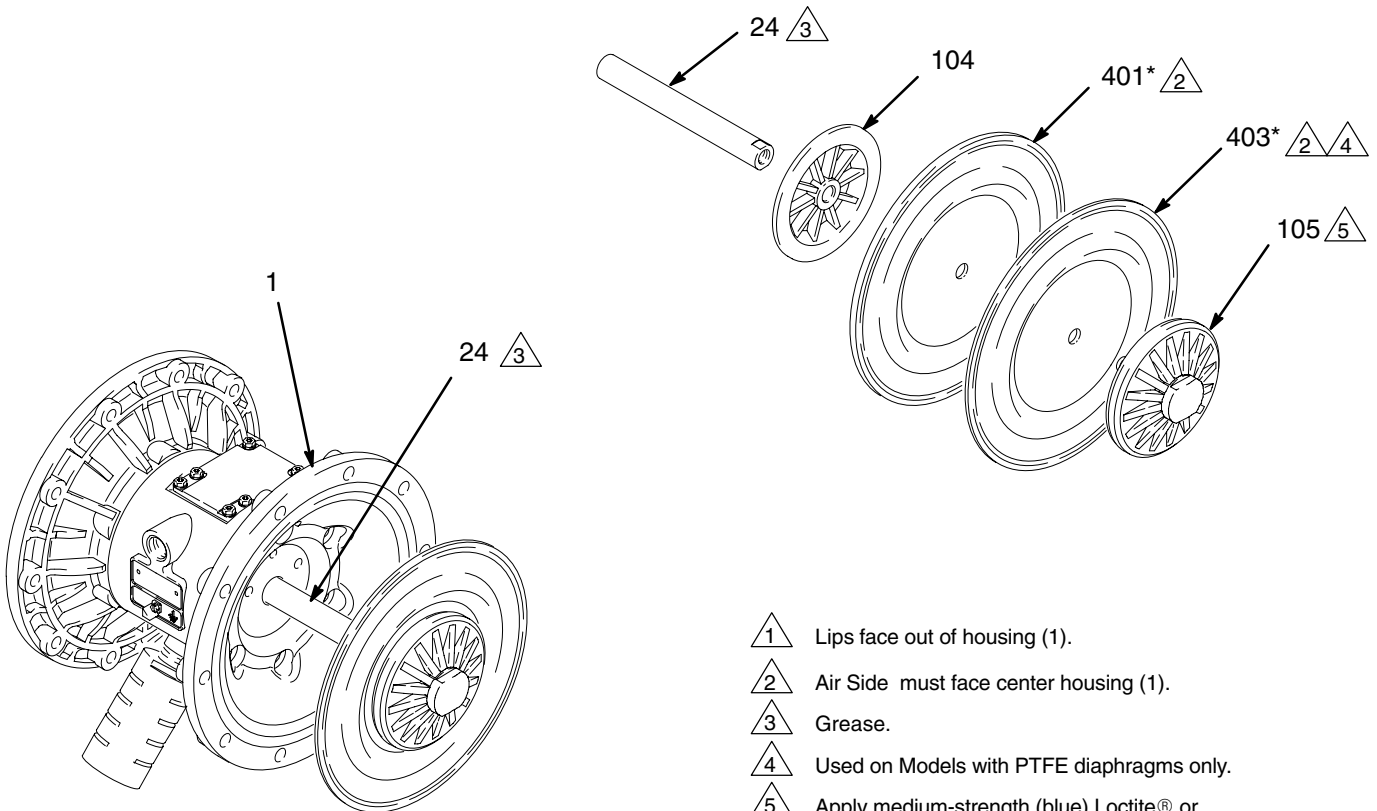
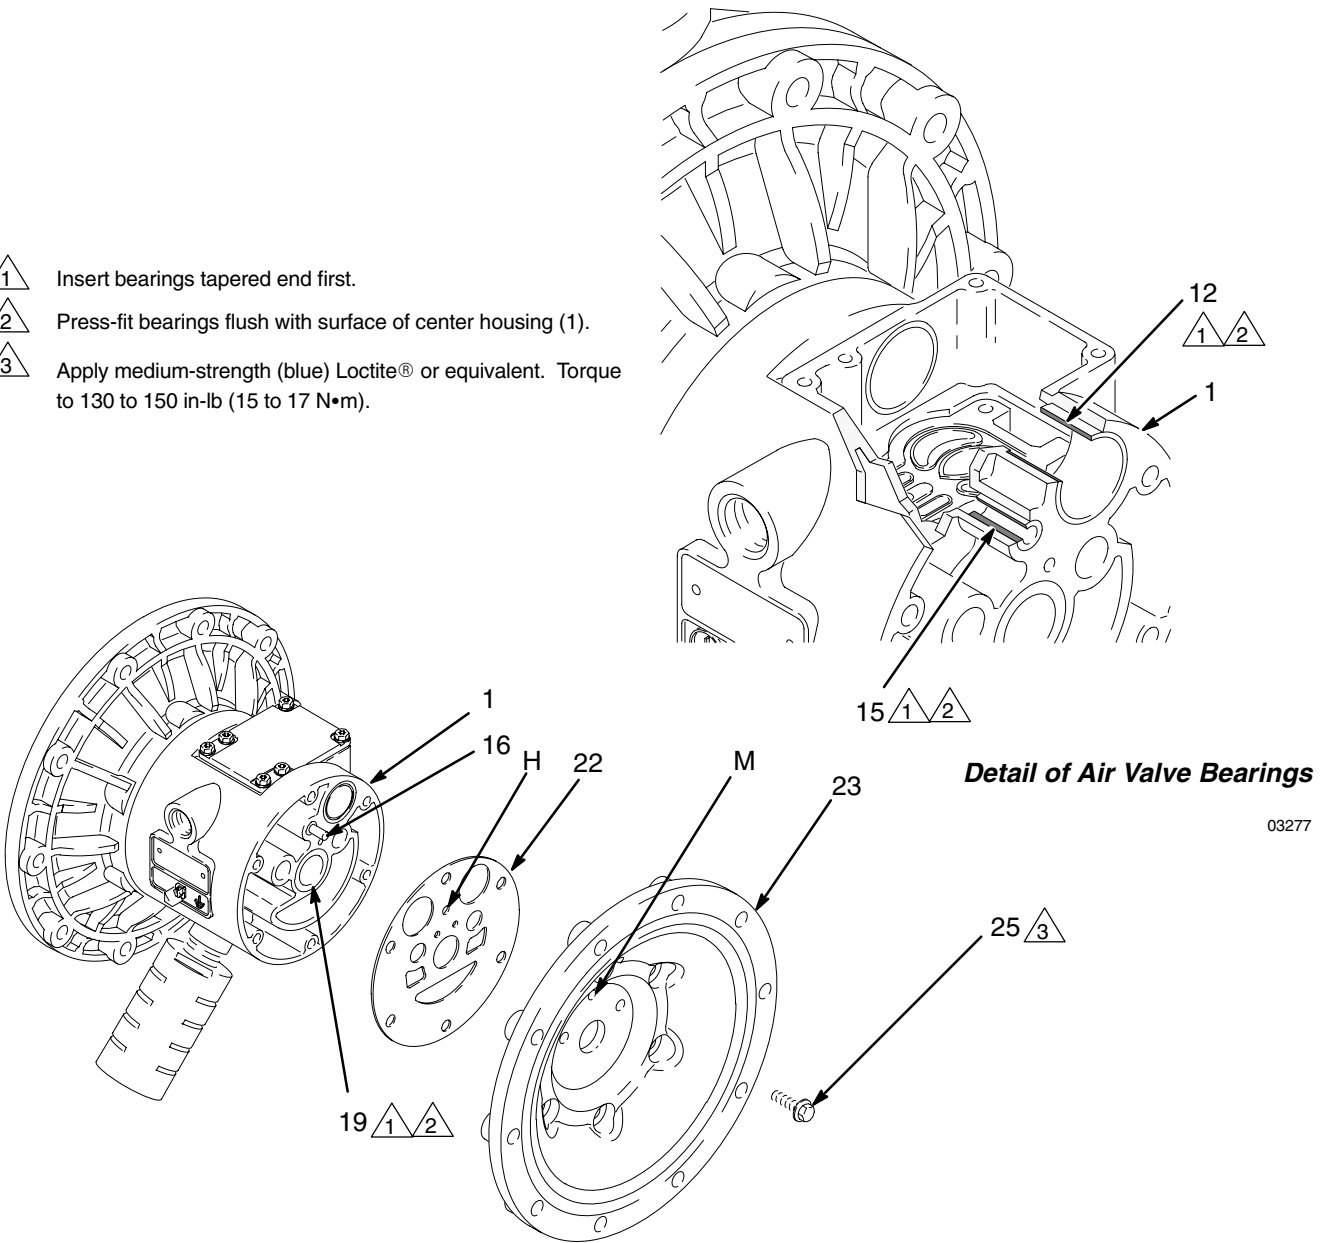

Fig. 13
Fig. 14
4. Unscrew one outer plate (105) from the diaphragm shaft (24). Remove one diaphragm (401), and the inner plate (104). See Fig. 13.
1. Grease the shaft u-cup packings (402*) and install them so the lips face **out** of the housing (1). See Fig. 13.
2. Grease the length and ends of the diaphragm shaft (24) and slide it through the housing (1).
3. Assemble the inner diaphragm plates (104), diaphragms (401*), PTFE diaphragms (403*, if present), and outer diaphragm plates (105) *exactly* as shown in Fig. 13. These parts **must** be assembled correctly.
- NOTE:** If you are removing only the diaphragm shaft bearing (19), skip step 4.
5. Using a 10 mm socket wrench, remove the screws (25) holding the air covers (23) to the center housing (1). See Fig. 14.
6. Remove the air cover gaskets (22). Always replace the gaskets with new ones.
7. Use a bearing puller to remove the diaphragm shaft bearings (19), air valve bearings (12) or pilot pin bearings (15). Do not remove undamaged bearings.
8. If you removed the diaphragm shaft bearings (19), reach into the center housing (1) with an o-ring pick and hook the u-cup packings (402), then pull them out of the housing. Inspect the packings. See Fig. 13.
1. If removed, install the shaft u-cup packings (402*) so the lips face **out** of the housing (1).
2. The bearings (19, 12, and 15) are tapered and can only be installed one way. Insert the bearings into the center housing (1), **tapered end first**. Using a press or a block and rubber mallet, press-fit the bearing so it is flush with the surface of the center housing.
4. Align the new air cover gasket (22) so the pilot pin (16) protruding from the center housing (1) fits through the proper hole (H) in the gasket.
5. Apply medium-strength (blue) Loctite® or equivalent to the threads of screws (25). Align the air cover (23) so the pilot pin (16) fits in the middle hole (M) of the three small holes near the center of the cover. Install the screws (25), handtight. See Fig. 14. Using a 10 mm socket wrench, torque the screws oppositely and evenly to 130 to 150 in-lb (15 to 17 N•m).